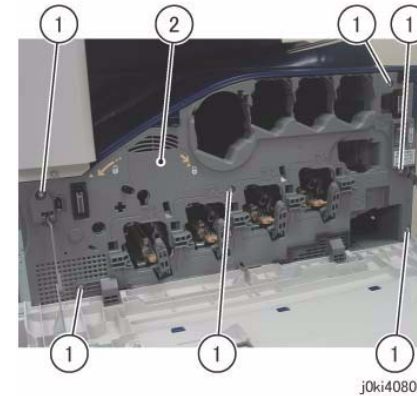

Figure 2 Open the L/H Cover
6. Remove the Front Cover together with the Inner Cover. (Figure 2)